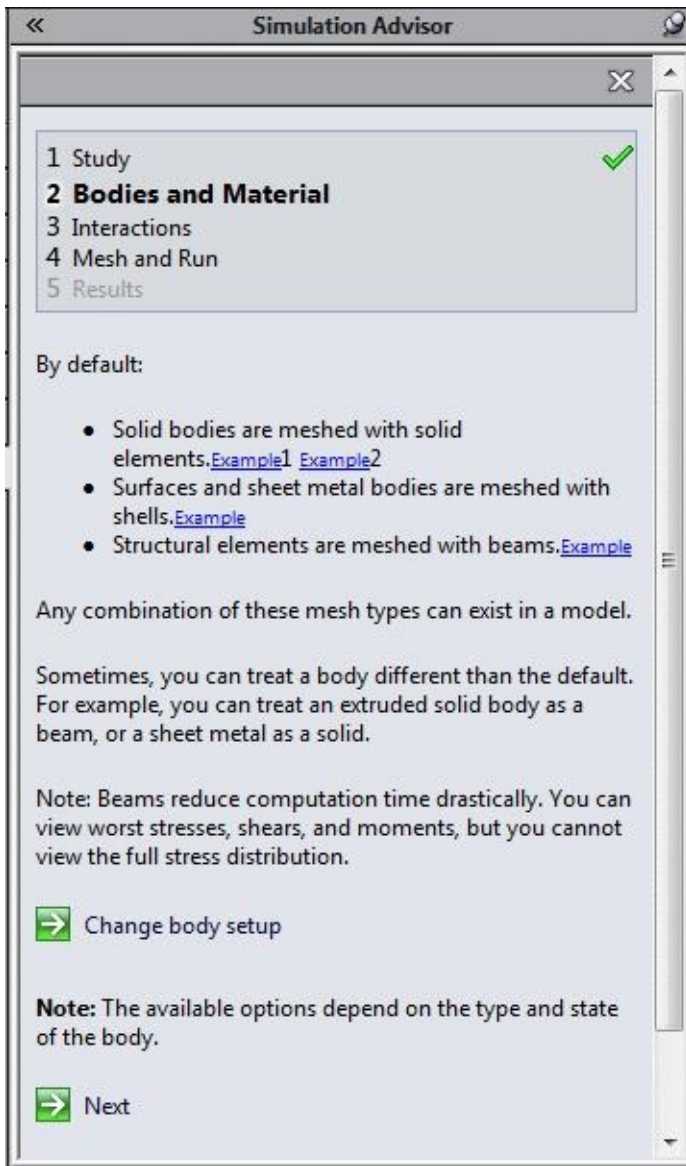

Figure-41. Page related to body setup
- After you are finished with the symmetry then click on the **Finished with Symmetry** link button. The page related to body setup will be displayed; refer to Figure-41.